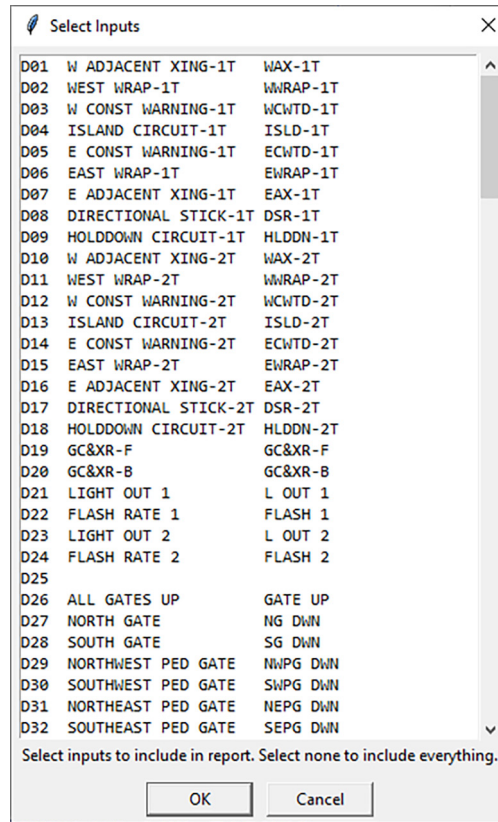

Figure 16: Select Inputs Dialog Box-All Inputs Selected
5. To proceed, click the **Open** button. The dialog shown in Figure 16 on page 27 will be displayed.